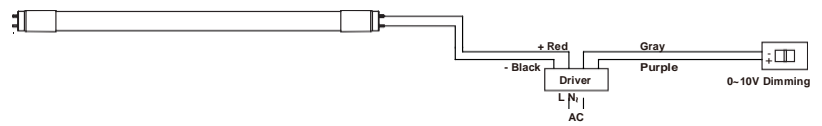

Figure 2a
Step 8: For single-ended wiring, please see **Figure 2a, 2b, 2c or 2d**.